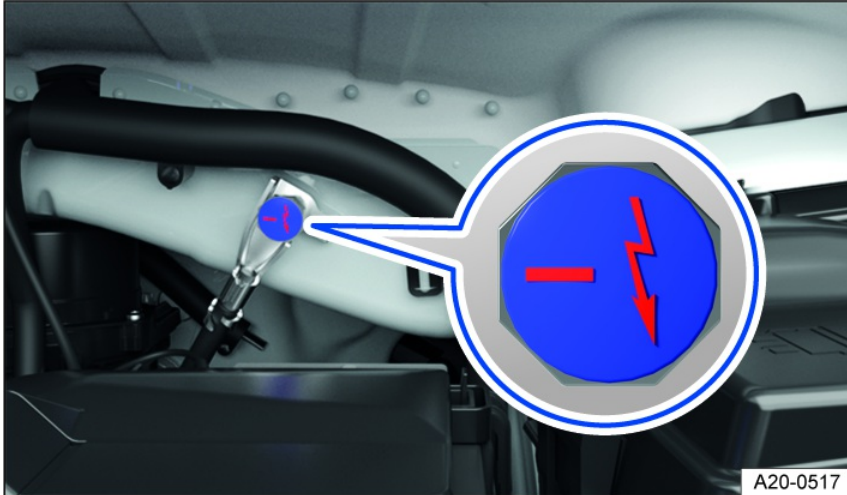

Fig. 152 In the hood space: Negative terminal jump-start point.
- The jump-start point (negative terminal) is for connecting the black jumper cable *fig. 152*.